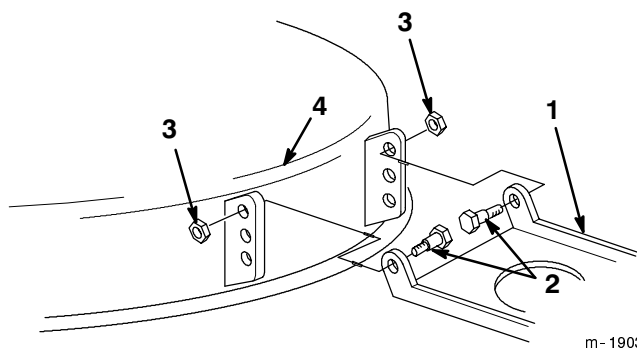

Figure 49
11. If the 1/4" to 5/8" (6.350 mm to 15.875 mm) front slope cannot be achieved by rotating the slope adjusting nut, move the mower pivot mount at the mower (Fig. 49).
12. Remove the shoulder bolts and lock nuts from the mower (Fig. 49).
13. Lower the mower pivot one hole and install the shoulder bolts and lock nuts (Fig. 49).